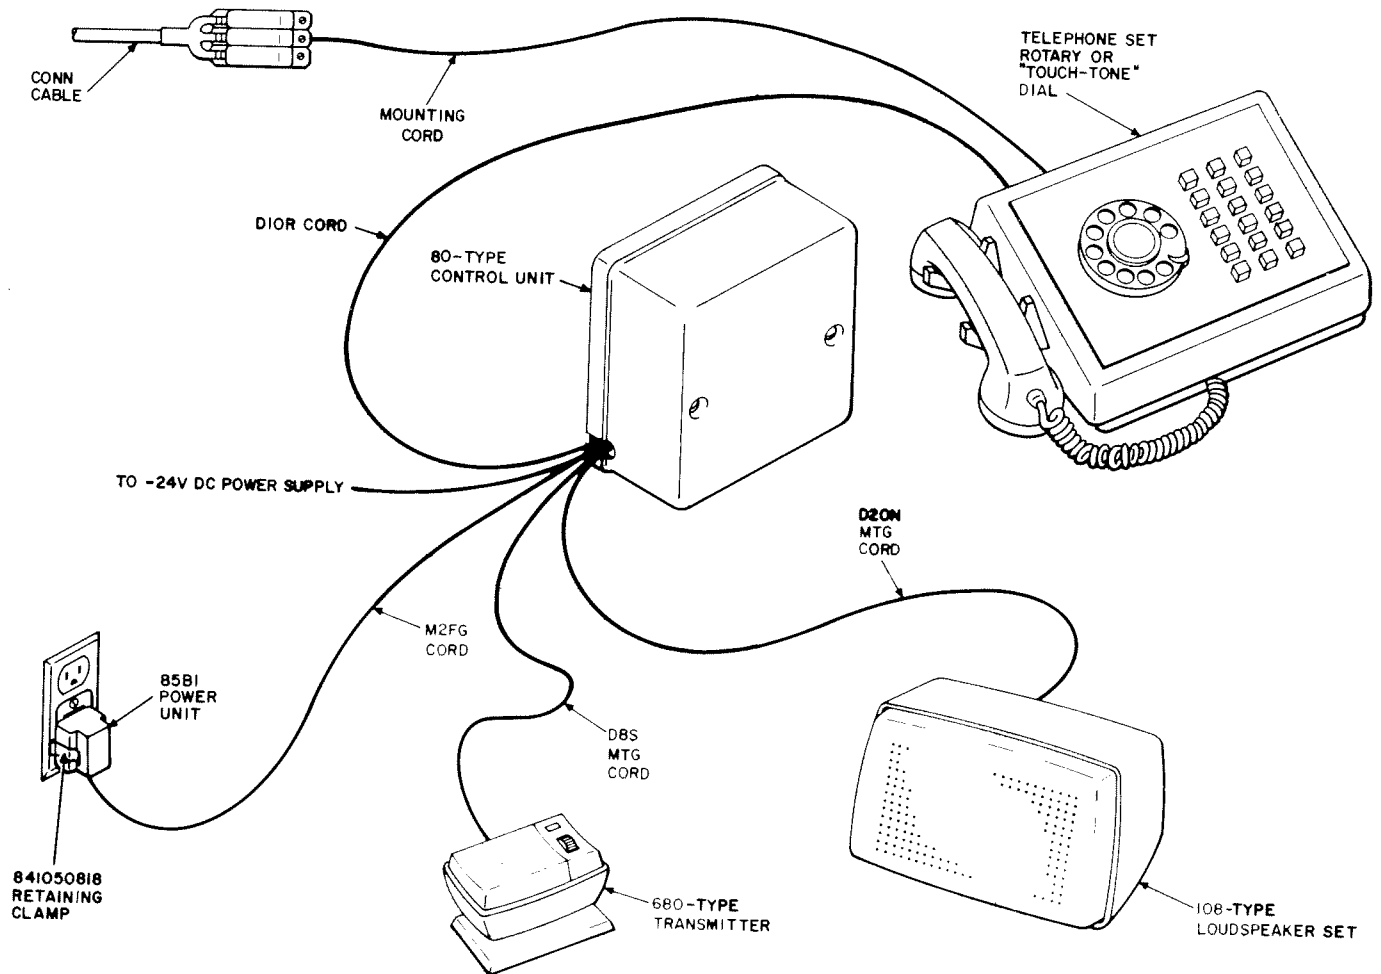

Fig. 2—Typical Arrangement of 4A Speakerphone System with 2- or 4-Wire Telephone Set
2.19 The 80-type control unit (Fig. 2 and 7) provides for connecting the 4A speakerphone system to either a 2- or 4-wire telephone transmission network. All standard operating features of the 4A speakerphone system are retained. Attached to the chassis of the control unit is a connector (same as that used in the 223A adapter) to which the 108-type loudspeaker set, the 680-type transmitter and the 85B1 power unit are connected.